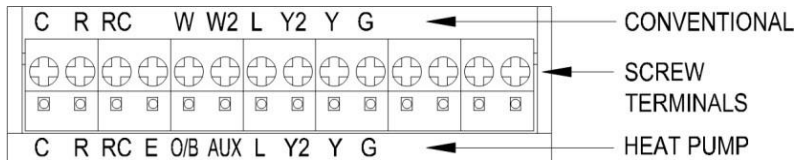

Fig.6.Terminal identifications.
1. See Table 1 and Fig.6 for terminal designation descriptions. Insert wires in the terminal block under the loosened screws. See Fig.7.